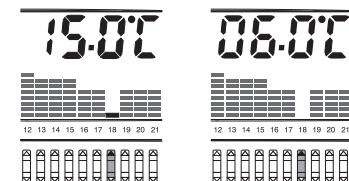

fig.1
Decreasing the temperature in Winter mode until **15.0°C** is reached (ex. in fig. 1), when pressed again the antifreeze temperature will appear **06.0°C** (ex. in fig. 2). If the antifreeze is switched off three dashes **- - - L** will appear (see paragraph 8.9).
- 1') Press the function button **C** the display shows **Ch** (hour counter) preceded by the number of operating hours and minutes of the current day (fig. 1). To display the number of operating hours and minutes of any day (only for the weekly model), press the corresponding button (fig. 2).